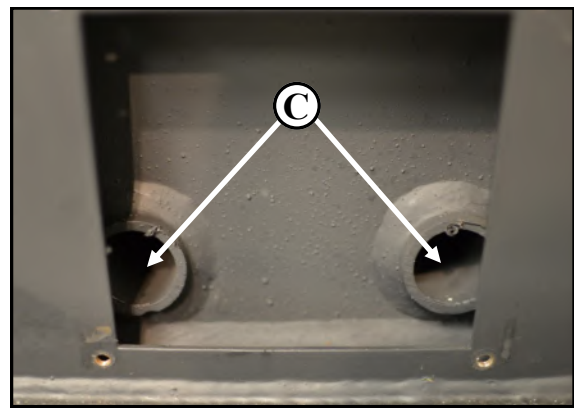

Fig. 4.13
2. Inspect and clean air holes (C) (Fig. 4.13).